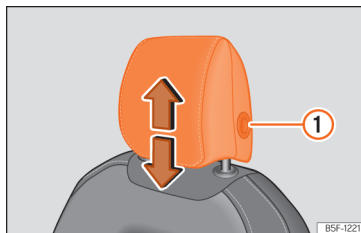
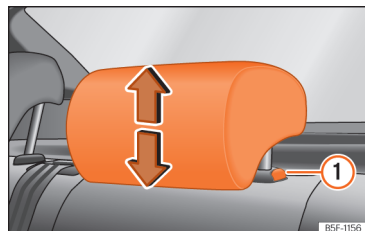

Fig. 94 Front seat: adjusting the head restraint.
Fig. 95 Rear headrest: adjusting the headrest.
- Grab the sides of the head restraints with both hands and push upwards to the desired position. To lower it, repeat the same action, pressing the button on the side ① »» Fig. 94 , »» Fig. 95.